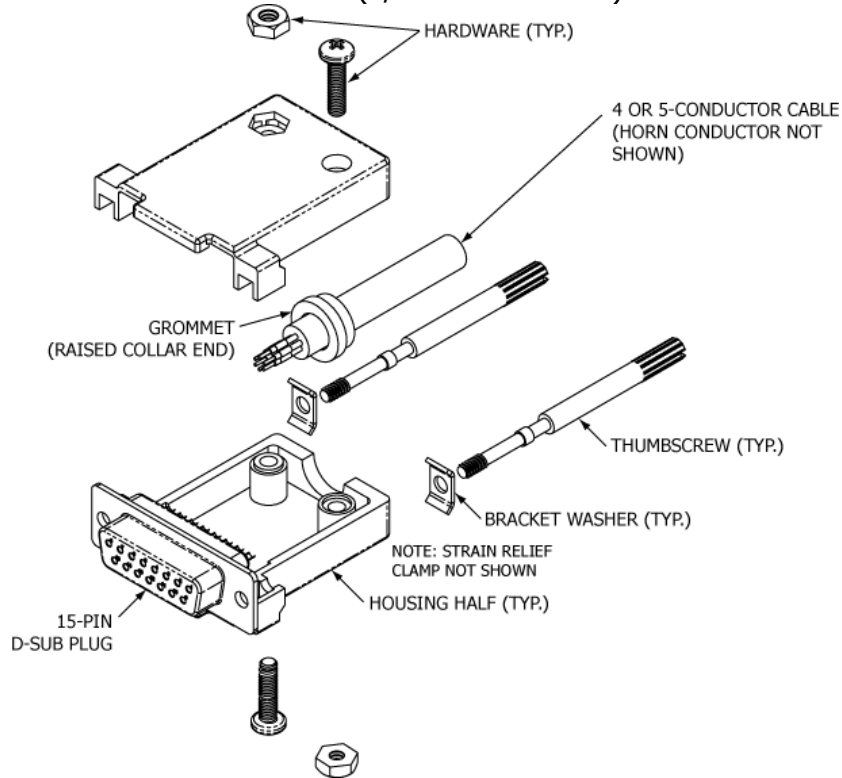

Figure 25 Harness Plug Assembly
- 1) See Figure 25 Harness Plug Assembly.